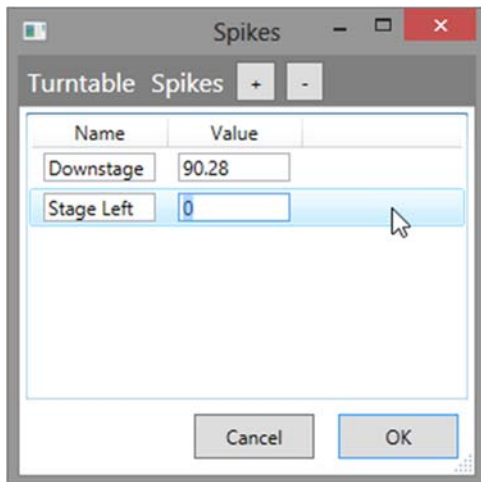

Figure 56
3. Enter in the **Names** and **Values** as shown below (Figure 56).